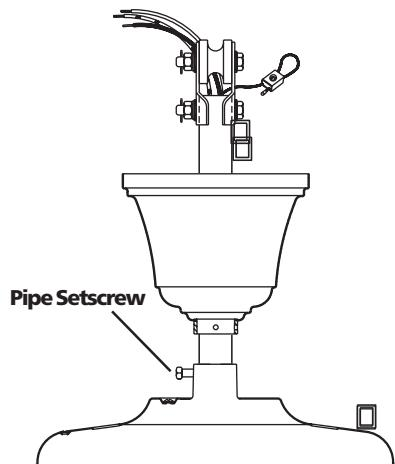

Figure 3 - Assembling The Fan
2. Screw pipe into fan assembly until tight. **IMPORTANT!** Tighten pipe setscrew as shown in Figure 3.